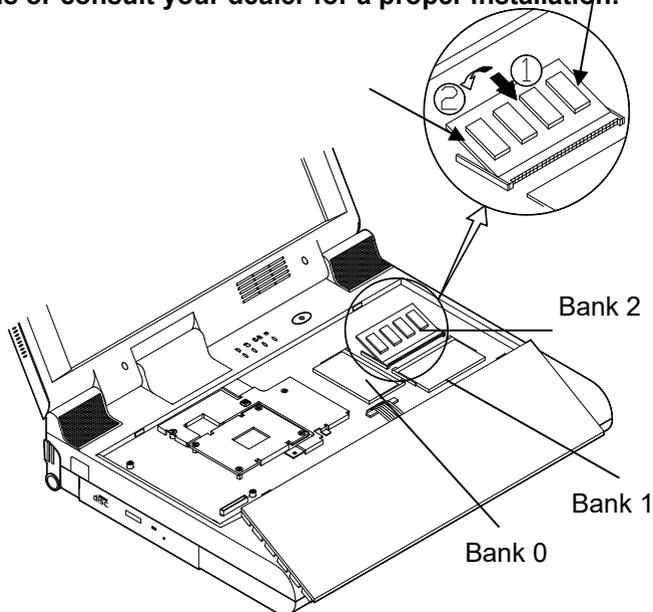

Figure 2-6
5. **Press two edges of the memory module (as the arrows indicated) to make it locked into place (Figure 2-6).**
Make sure you install the memory module in the order of Bank 0, Bank 1, Bank 2 (see Figure 2-6). Please refer to the table of DRAM combinations or consult your dealer for a proper installation.